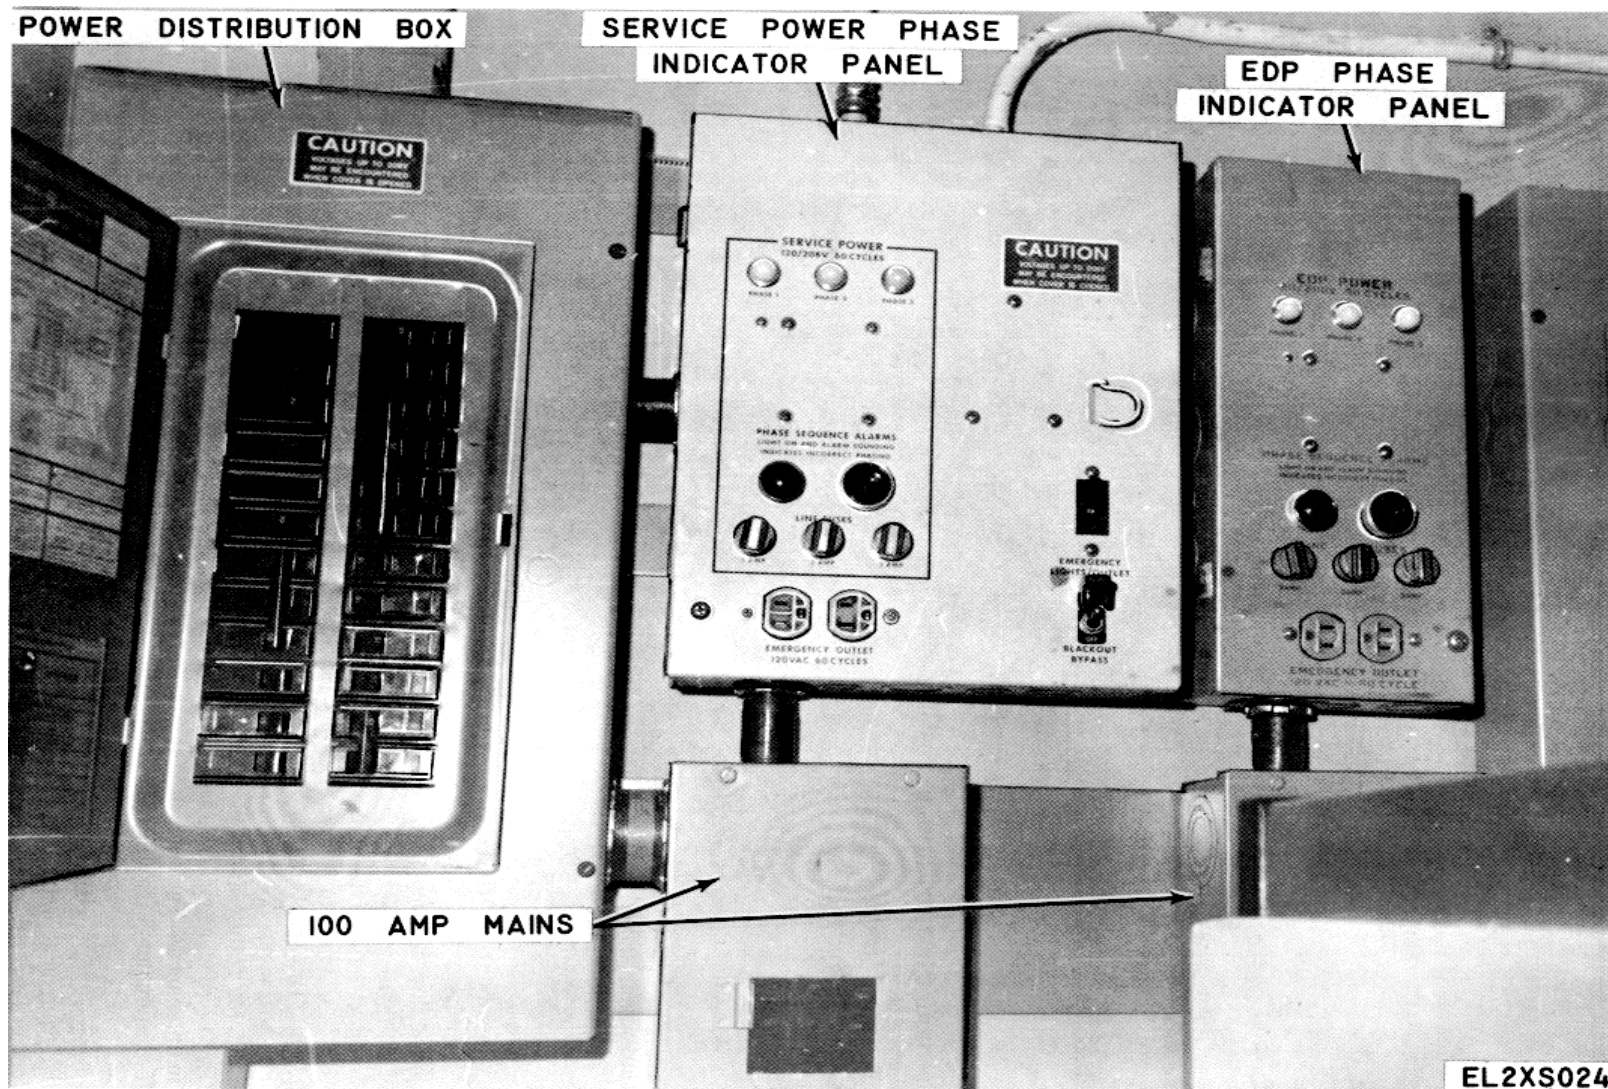

Figure 2-9. Control and Indicator Panel.
(1) Ensure that all van 1 power control center circuit breakers (main and branch) and equipment power switches are in the OFF position.
(2) Verify that ac service indicator and alarm panel (A5) phase lights DS1, DS2, and DS3 are lit (fig. 2-9).
(3) Turn on the ac service power main circuit breaker (A4).